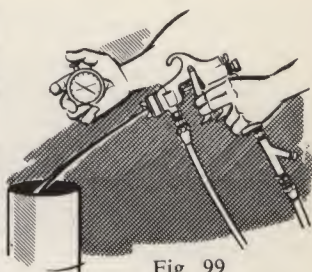

Fig. 99
- (k) (Fig. 99) Adjust the fluid flow to approximately a pint per minute. (This requires about 10 to 15 lbs. air pressure on the tank.) This figure is arbitrary since different materials flow at different rates, but it provides a basis for setting the fluid adjustment.